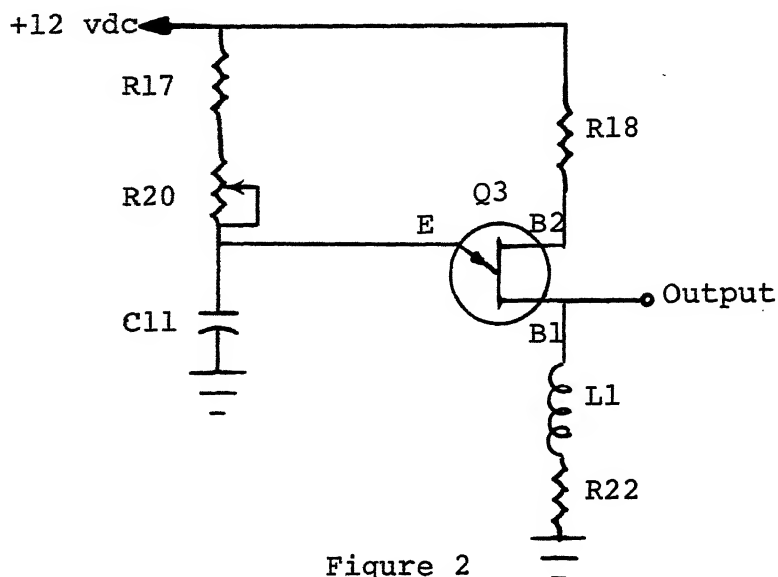

Figure 2
Figure 2 illustrates the unijunction trigger oscillator as it is configured on the Resolver Driver Card (A3A1) of the radar's synchronizer. When power is applied to the circuit, C11 begins charging towards +12vdc through R17 and R20. Q3 requires a bias voltage of +8vdc on the emitter to conduct. When the charge on C11 reaches +8vdc, Q3 becomes forward biased and conducts, providing a discharge path for C11. The discharge path is through ground, R22, L1, and the B1-E junction of
In the unijunction trigger oscillator shown in figure 2, the components that determine the \_\_\_\_\_ of the output pulse are C11, L1, and R22.
4. Refer to figure 2. The components that determine the shape of the output pulse are